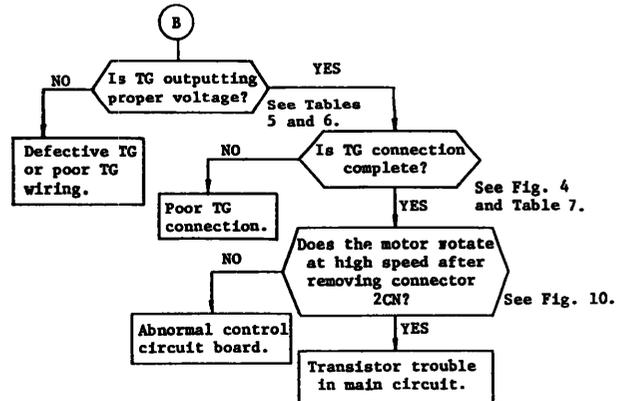

Fig. 15
- The motor rotates at a high speed as soon as the power is turned on, despite the reference is 0 (Fig. 15). --- (B)